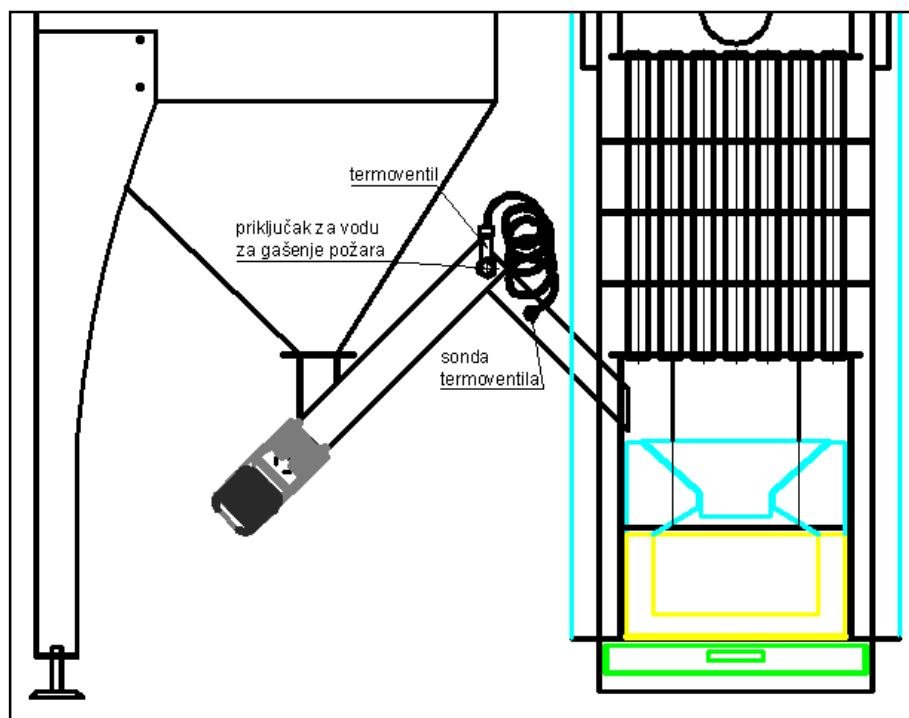

Figure 10. Connection site of thermo valve with the pellet dosing system (PP set)
- In the case of the chimney of a really bad quality mentioned air may be insufficient to prevent entrance of the air into the storage. Thermo valve activates then (see Figure 10) which opens on a temperature of 95°C and enables the supply of water which through the system on thermo valve partly enters the screw conveyor and the dosing pipe, and partly in the pellet screw conveyor and thus performs fire fighting. Thermo valve together with its probe (see Figure 10) is factory installed into the boiler. The obligation of the customer is to provide a water supply for fire fighting on the thermo valve connection (connection is 1/2") (see Figure 10).